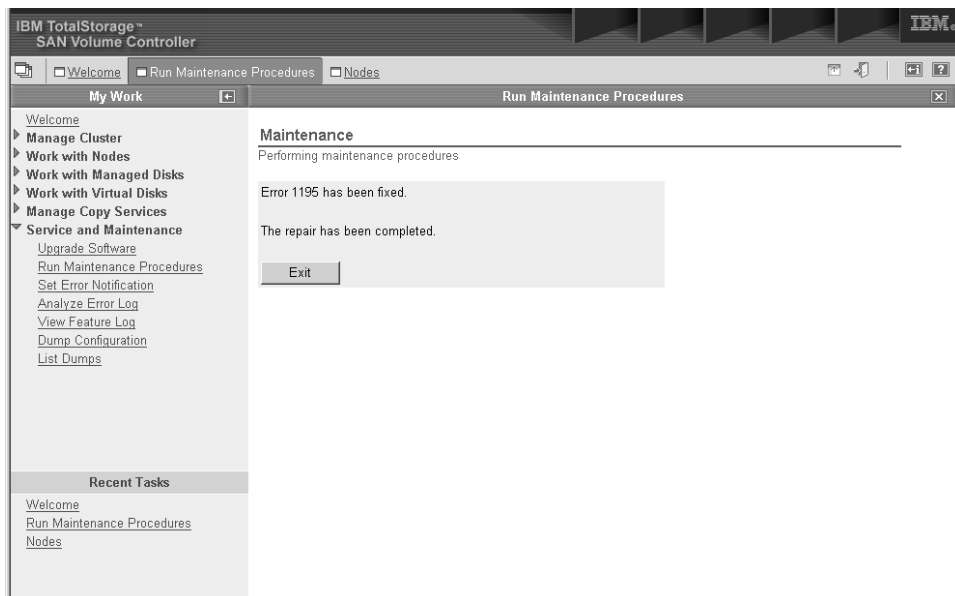

Figure 54. Example of what is displayed when the repair is completed
6. Click OK to mark the error as fixed in the error log to prevent this instance of the error from being listed again. This action displays message similar to that shown in Figure 54 indicating that the repair has been completed.